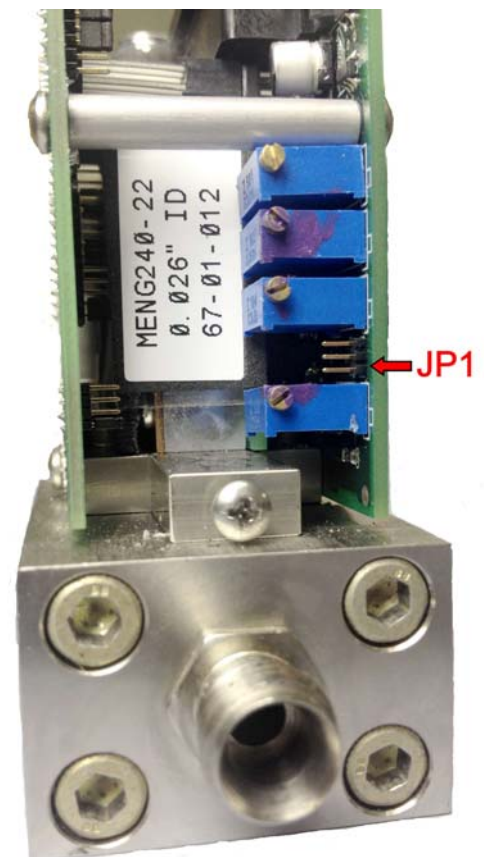

Fig. 2.6
If less overall system noise is desired, a jumper may be installed over the pins of JP1 on the flow measurement card. See Figure 2.6. Covering the two top most pins (1 & 2), that are closest to the span adjustment potentiometer (R8), will activate a resistor-capacitor (RC) filter that has a time constant of one second. This will increase the settling time of the indicated flow rate to approximately 4 seconds. Covering the bottom most pins (2 & 3), will lower the response time to approx. 1 second.